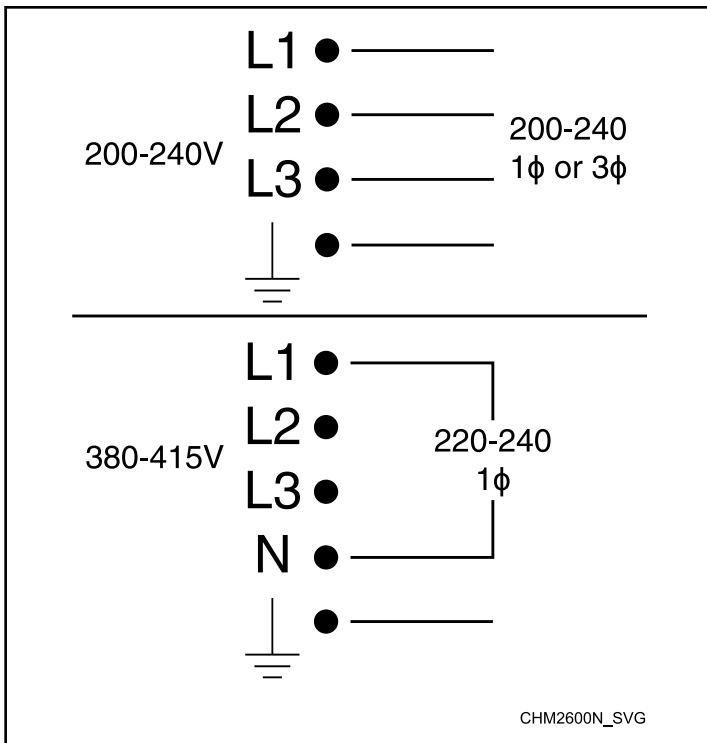

Figure 26
**IMPORTANT: For X voltage - To obtain 200-240V from a 200-240V source, connect L1 and L2. To obtain 220-240V from a 380-415V source, connect L1 and N. Refer to *Figure 26* .**